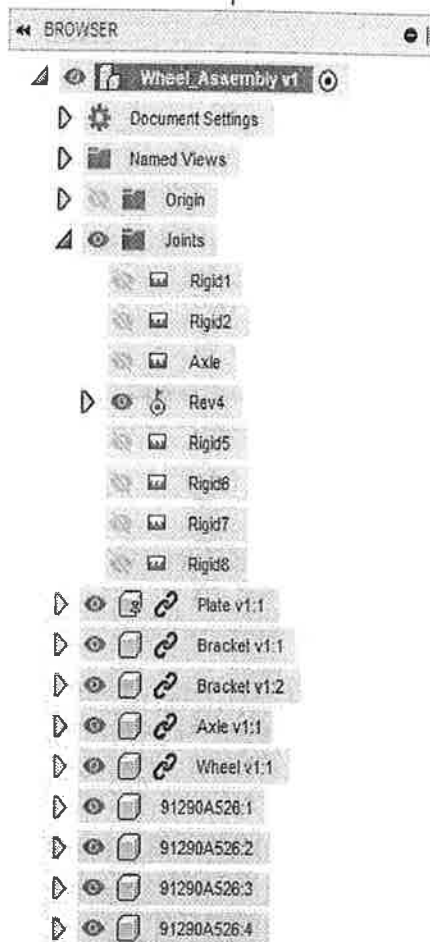

Figure 14–46
20. Add Rigid joints so that the design displays as shown in Figure 14–46. All Rigid joint icons have been hidden from the display.
2. Use the **Press Pull** tool to modify the height and width of the rib (3 faces) so that it is similar to that shown in Figure 14–47.